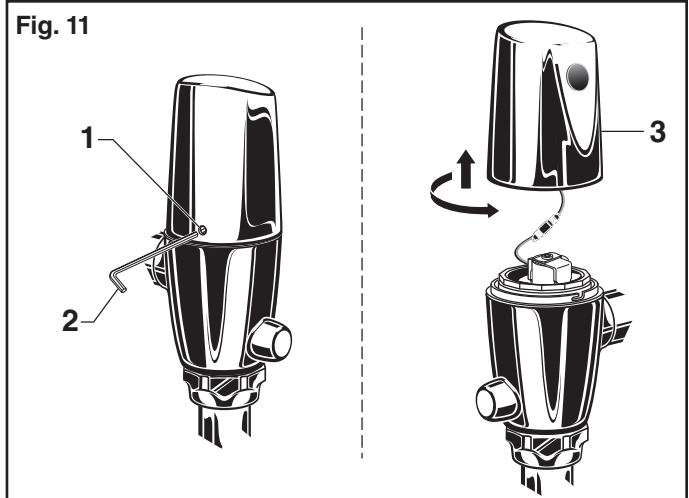

Fig. 11a
3. Turn COVER (3) over and disconnect the SENSOR (4) from the BATTERY HOLDER (5). Remove the BATTERY CONTAINER (6) with BATTERY HOLDER (5) and BATTERY (7) inside. Fig. 11a.
4. Remove BATTERY HOLDER (5) from BATTERY CONTAINER (6). Fig. 11a.
5. Remove old BATTERY from BATTERY HOLDER (5). Install the new BATTERY (7) making sure the shape of the BATTERY follows the shape of the BATTERY HOLDER (5). Fig. 11a.
6. Insert BATTERY HOLDER (5) with BATTERY into BATTERY CONTAINER (6). Insert BATTERY CONTAINER (6) into flush valve COVER (3). Fig. 11a.
7. Connect BATTERY HOLDER (5) to SENSOR (4) and reverse the above steps to assemble flush valve. Fig. 11a.